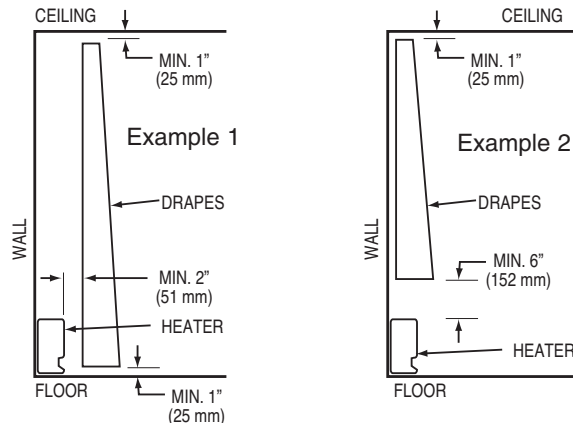

Figure 2: Clearance for Drapery
6. **CAUTION – Heater Operates at High Temperatures. Keep Electrical Cords (including telephone and computer cables), Drapes, and Other Furnishings Away From Heater.** For efficient and safe operation, we recommend maintaining a minimum of 6 inches (152 mm) clearance above and in front of the heater at all times. See Figure 2 for minimum clearance requirements for drapery.
Heater to Drapery: do not install heater where curtains or drapery will contact the heater. See Fig. 2 for required minimum clearances.